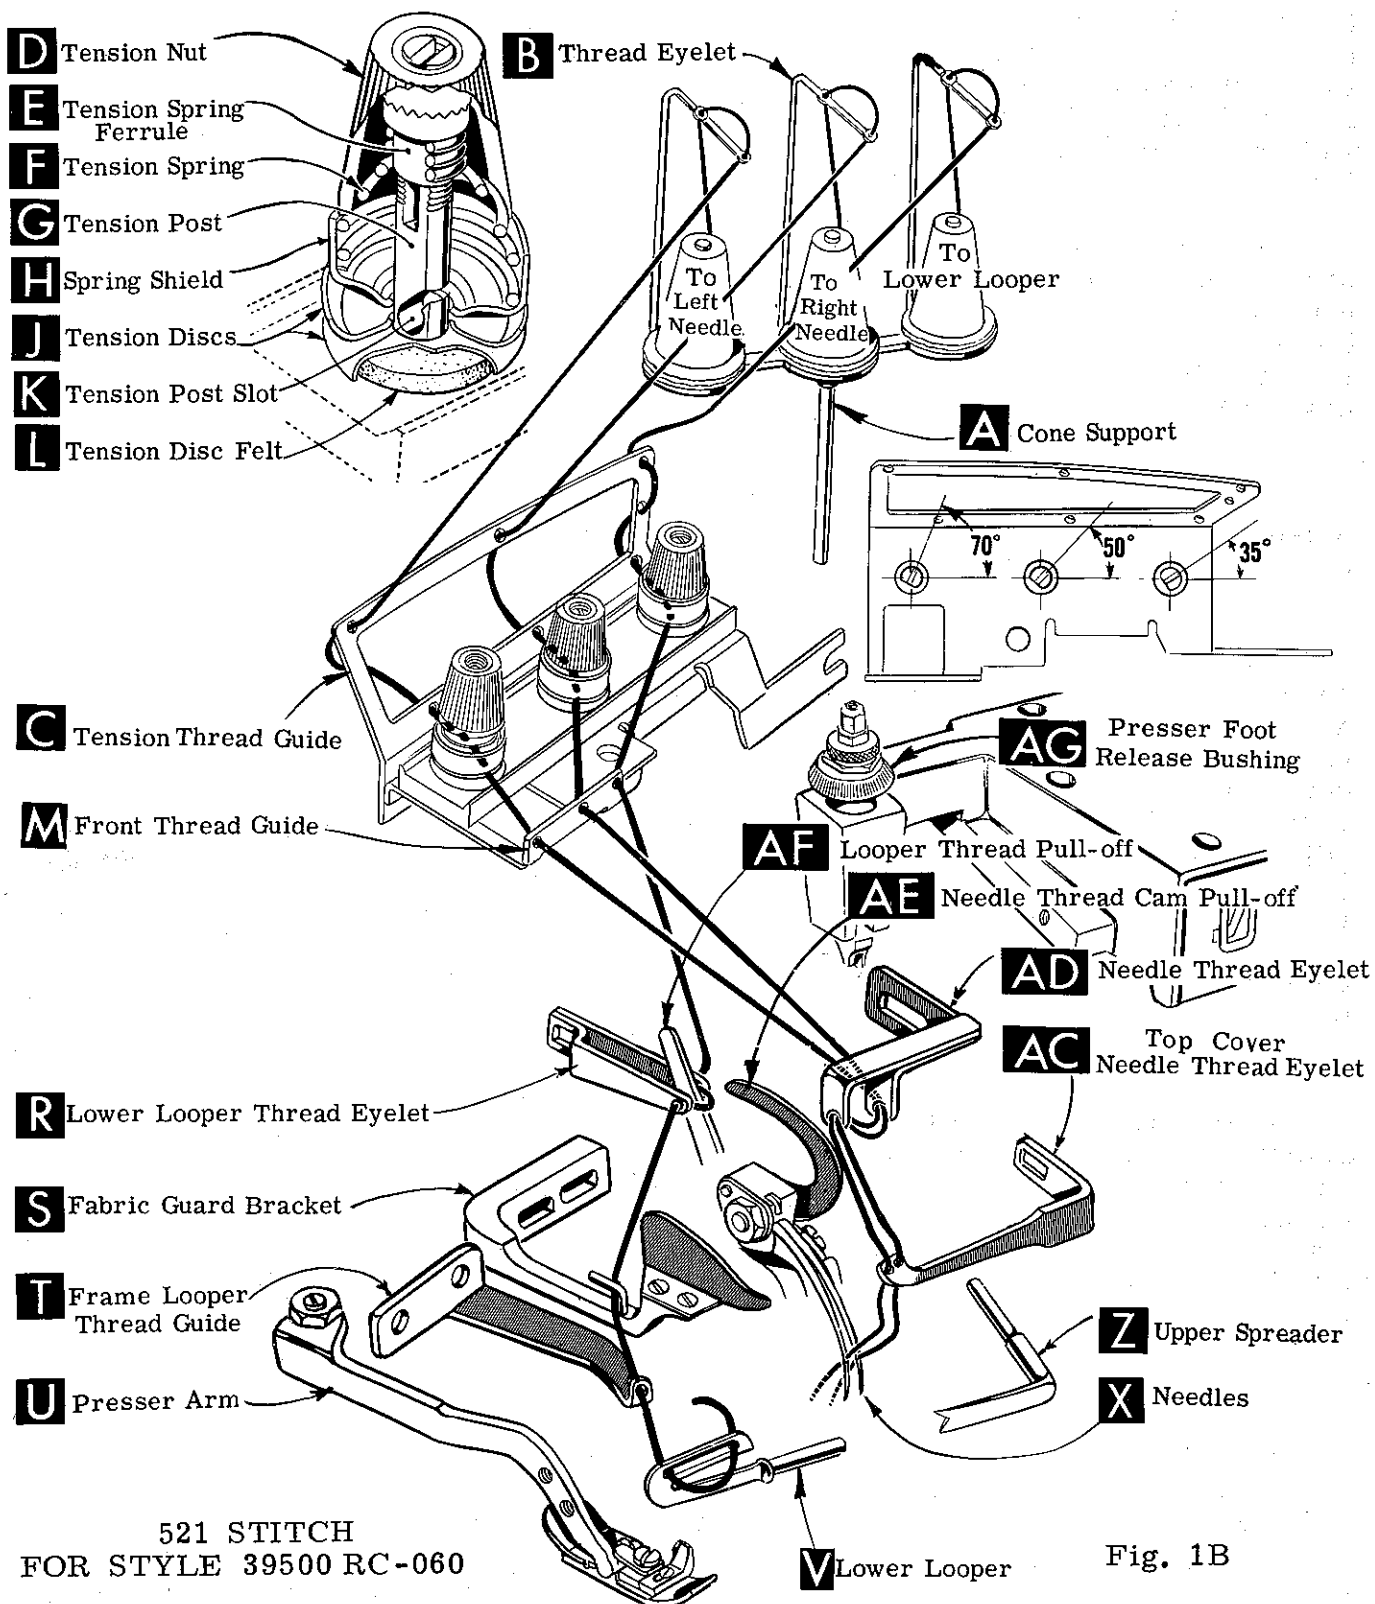

Fig. 1B
After thread comes from cones on cone support (A, Fig. 1B) it is brought up through the back hole of thread eyelet (B), then down through the front hole of thread eyelet.
Now, the left and right needle threads are threaded through the upper holes (left and middle respectively) of tension thread guide (C, Fig. 1B) from front to back. Then through the lower holes from back to front.
Only parts involved in threading are shown in threading diagrams (Fig. 1, 1A and 1B). Parts are placed in their relative positions for clarity. Refer to Fig. 1 for threading of Style 39500 RB, Fig. 1A for threading of Style 39500 RC-045 and Fig. 1B for threading of Style 39500 RC-060.
Double end of thread and lead it through both eyes of lower looper thread eyelet (R, Fig. 1B) from right to left. NOTE: Thread must pass in front of looper thread pull-off (AF). Lead thread behind fabric guard (S) and through eyelet hole of frame looper thread guide (T). Turn handwheel in operating direction until heel of lower looper (V) is all the way to the left; then thread through both eyes from left to right. Left eye of lower looper can be threaded easily if tweezers are in left hand.
Be sure machine is threaded according to the diagram for your style of machine (Fig. 1, 1A or 1B). With thread tensions light, set upper looper thread eyelet (N, Figs. 1 and 1A) or lower looper thread eyelet (R, Fig. 1B) about horizontal and back in its front to back location. Operate machine slowly, without presser foot in place, to make sure that chain forms and moves off the tongue freely. Swing presser foot into position, insert material and sew slowly.